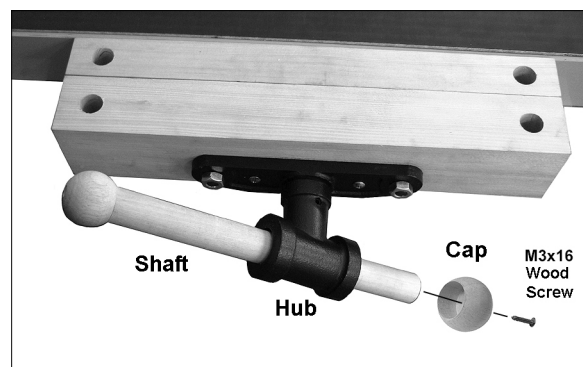

Figure 9
5. Slide the *vise handle shaft* into the hub, and secure the two *caps* with the provided *M3x16 wood screws*, as shown in Figure 9.